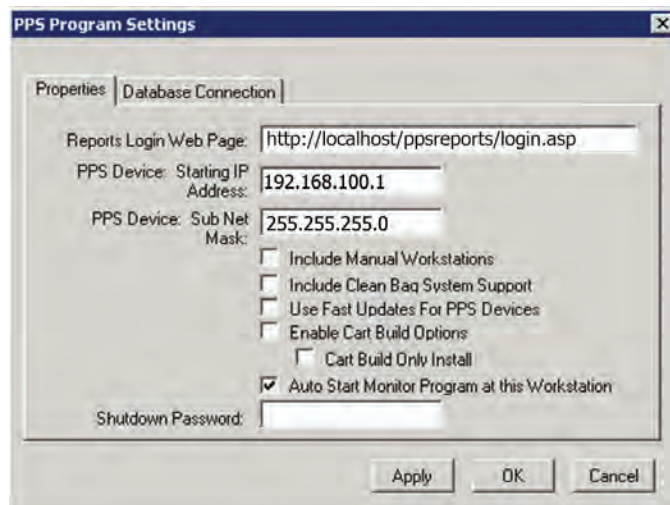

Figure 120. PPS Program Settings: Properties.
8. Select the **Properties** tab (see Figure 120).